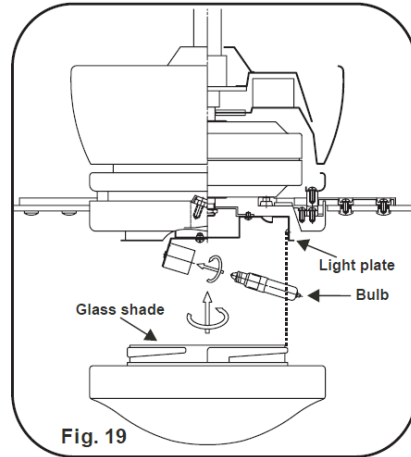

Fig. 19
Step 1. Install 100W halogen bulb (included) (Fig. 19).
Step 2. Raise glass shade up against bottom of fan housing and secure it to fan by twisting glass clockwise until snug. DO NOT OVERTIGHTEN (Fig. 19).